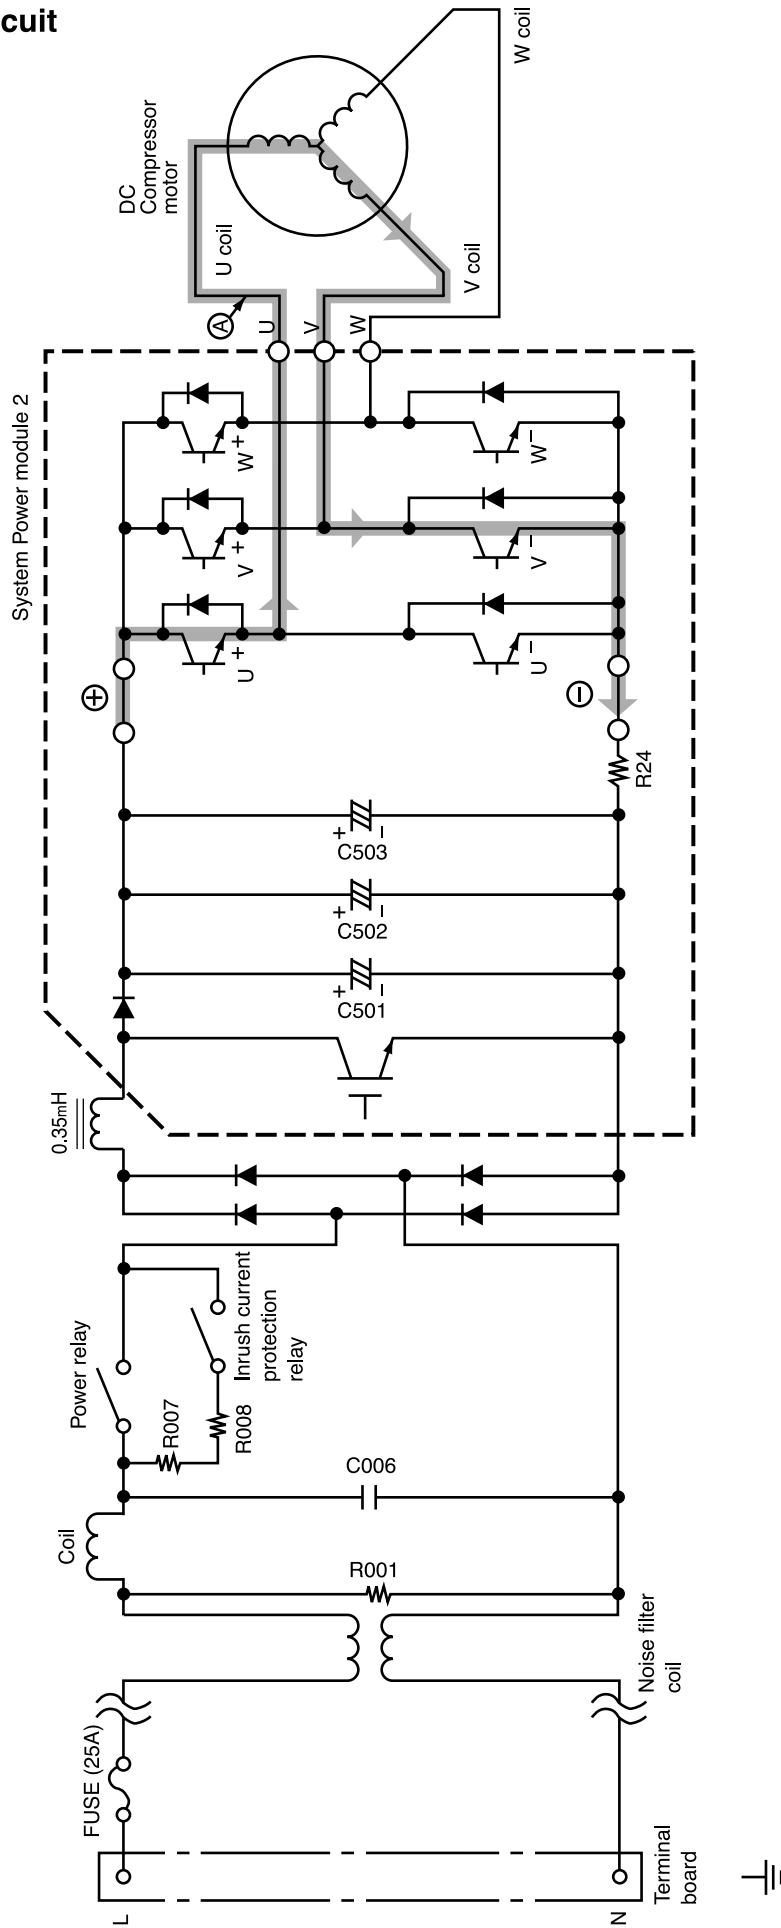
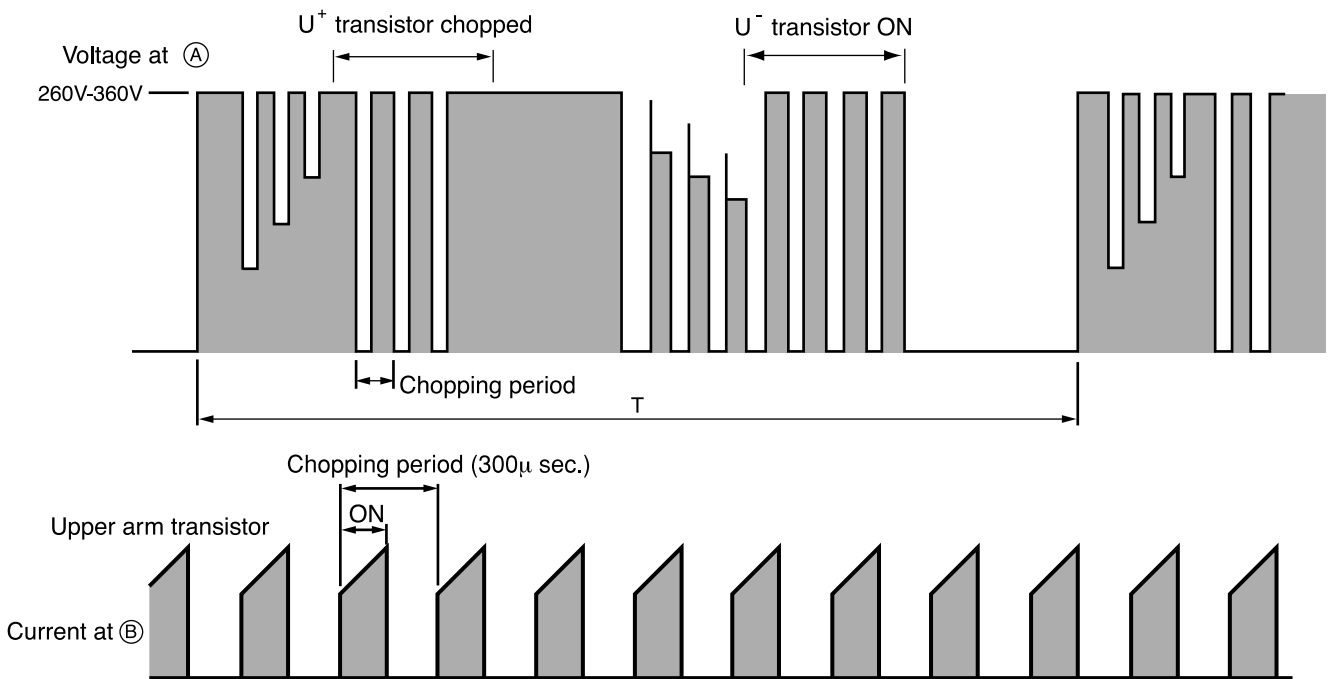

Fig. 3-1 Power module circuit (U⁺ is ON, V⁻ is ON)
Fig. 3-3 Voltage waveform at each point
- Fig. 3-1 shows the system power module and its peripheral circuit. The three transistors on the positive \oplus side, the three transistors on the negative \ominus side, and the three transistors on the positive \oplus side, the three transistors on the negative \ominus side, and the three transistors on the negative \ominus side, the lower arm.
- Fig. 3-3 shows voltage waveform at each point shown in Figs. 3-1 and 3-4. First half of upper arm is chopper, second half is ON, and first half of lower arm is chopper, second half is ON.
- When power is supplied U⁺ → U⁻, because of that U⁺ is chopped, current flows as shown below; (B)
- (1) When U⁺ transistor is ON: U⁺ transistor → U coil → V coil → V⁻ transistor → DC current detection resistor → Point (B) (Fig. 3-1)
- Since current flows at point B only when U⁺ transistor is ON, the current waveform at point B becomes intermittent waveform as shown in Fig. 3-3. Since current at point B is approximately proportional to the input current of the air conditioner, input current is controlled by using DC current (Id) detection resistor.